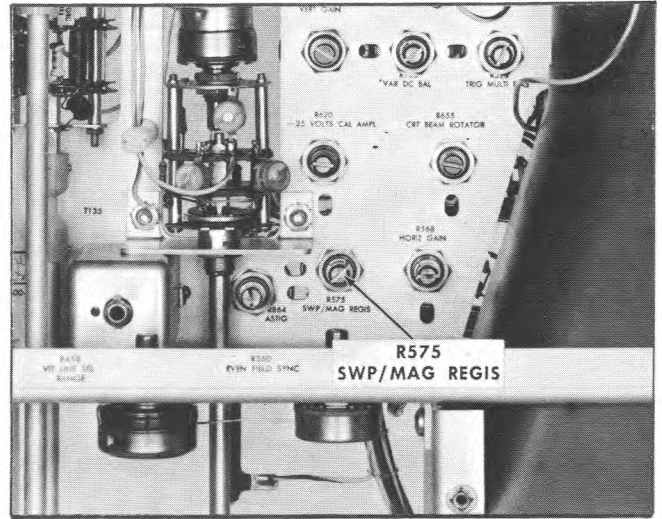

Fig. 6-28. Location of SWP/MAG REGIS adjustment.
e. Adjust the SWP/MAG REGIS control (R575; see Fig. 6-28) so the vertical pulse group coincides with graticule center (see Fig. 6-27B).